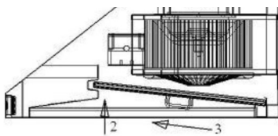

Figure 2
- Push the front end of the baffle filter up while keeping the back end stationary. (Step 2 in *Figure 2*)
- Slide the baffle filter towards the front end until it fits into the slot behind the LCD display. (Step 3 in *Figure 2*)